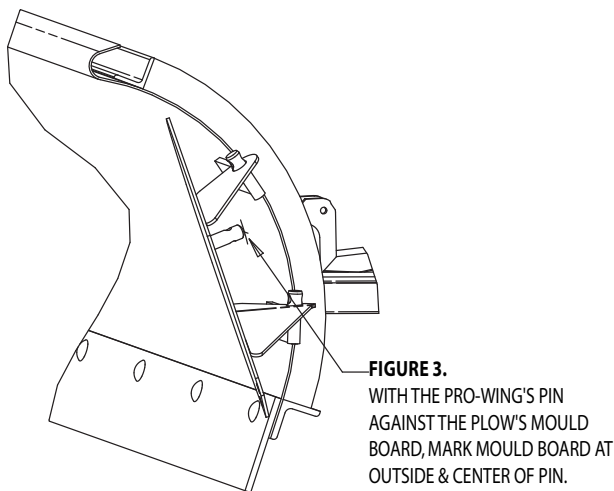

FIGURE 3.
3. Rotate the Pro-Wing towards the plow's mould board until the Pro-Wing's pin is touching. Mark with a pencil the location of the center & outboard edge of the pin as shown in figure 3.
TO THE MARKS MADE IN FIGURE 3.